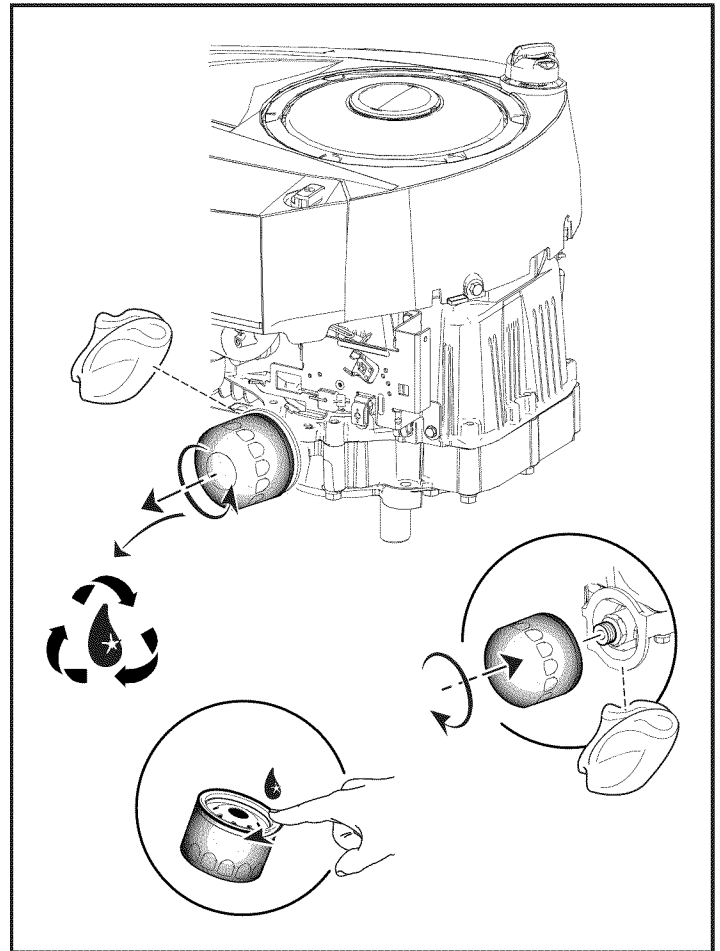

Figure 11
7. Lightly lubricate the oil filter gasket with fresh, clean oil (see Figure 11).